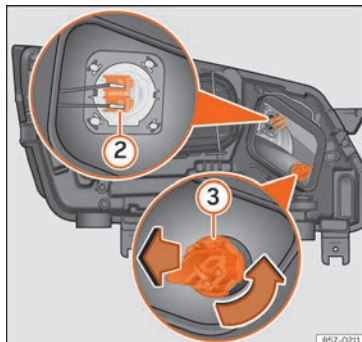

Fig. 56 In the engine compartment: main beam headlight bulb (2) and turn signal bulb (3).
- Slide connector »» Fig. 56 (2) to the left or right and pull.
- Turn the bulb holder »» Fig. 56 (3) anticlockwise and pull.